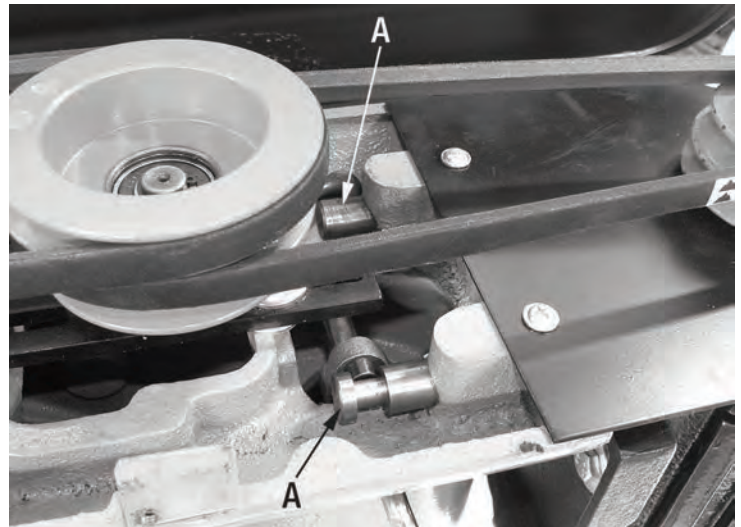

FIGURE 23
- Lightly grease the belt tension slide bars (A) Fig.23 every two months or as needed depending on frequency of use.